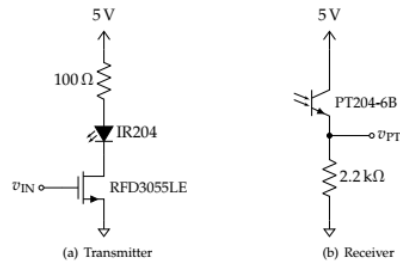

Figure 13.14: Infrared communication building blocks
1. Construct the infrared transmitter and receiver circuits in figure 13.14 on opposite sides of your breadboard. Use an infrared LED (IR204) [3] as the transmitter and an infrared phototransistor (PT204-6B) [4] as the receiver.a